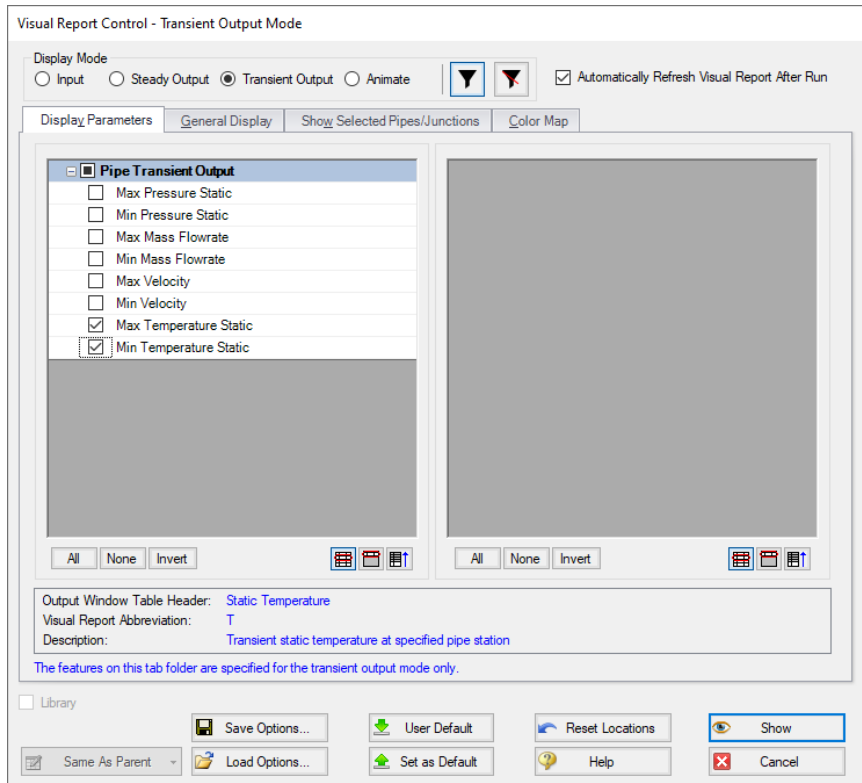
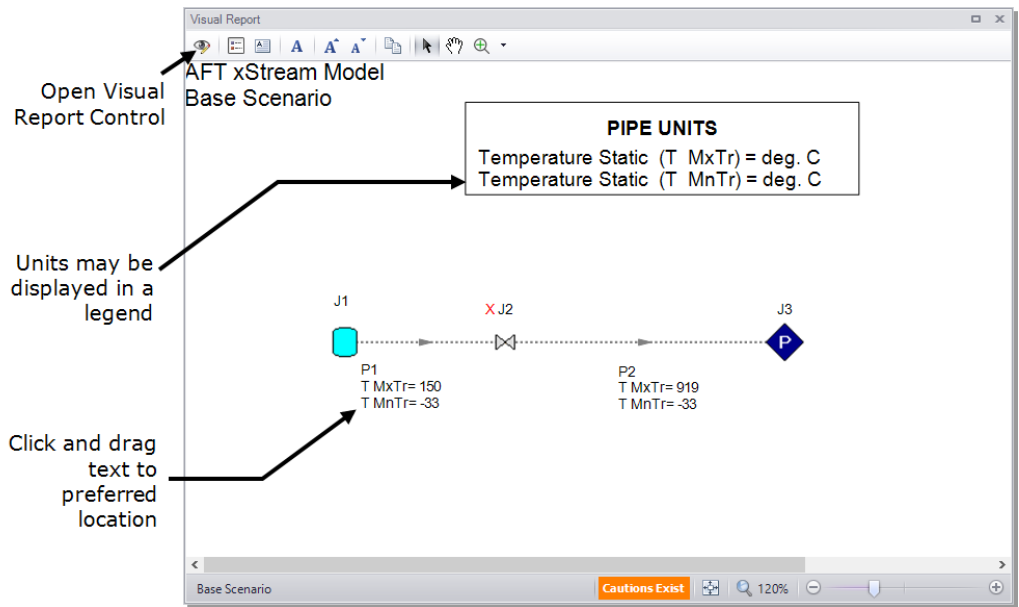

Figure 2.32 The Visual Report Control window selects content for the Visual Report window
Figure 2.33 The Visual Report integrates results with model layout
- **Select "Max Temperature Static" and "Min Temperature Static" in the Pipe Transient Output area of the Visual Report Window as shown in Figure 2.32. Click the Show button. This will generate the Visual Report window graphic seen in Figure 2.33.**
It is common for the text in the Visual Report window to overlap when first generated. You can change this by dragging the text to a new area to increase clarity. You can also use the Visual Report Control window to display units in a legend to increase the clarity of the display. These adjustments have been made in Figure 2.33. This window can be printed